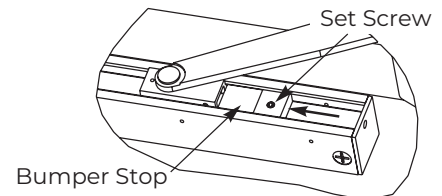

Fig. 16
- Tighten set screw in bumper stop so bumper will stay in position. (Fig. 16)